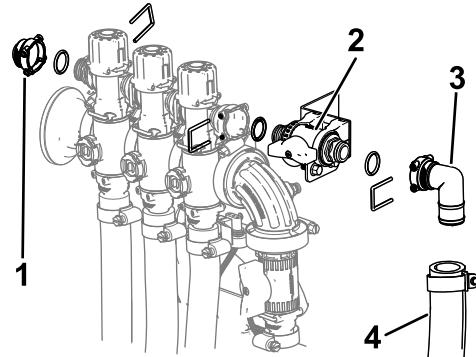

Figure 21
- 6. Secure the control valve assembly to the boom valve with the previously removed O-ring and retainer (Figure 21).
- 7. Install the cap (1/2 inch), O-rings, fitting, and hose assembly onto the control valve using the retainers previously removed as shown in Figure 21.